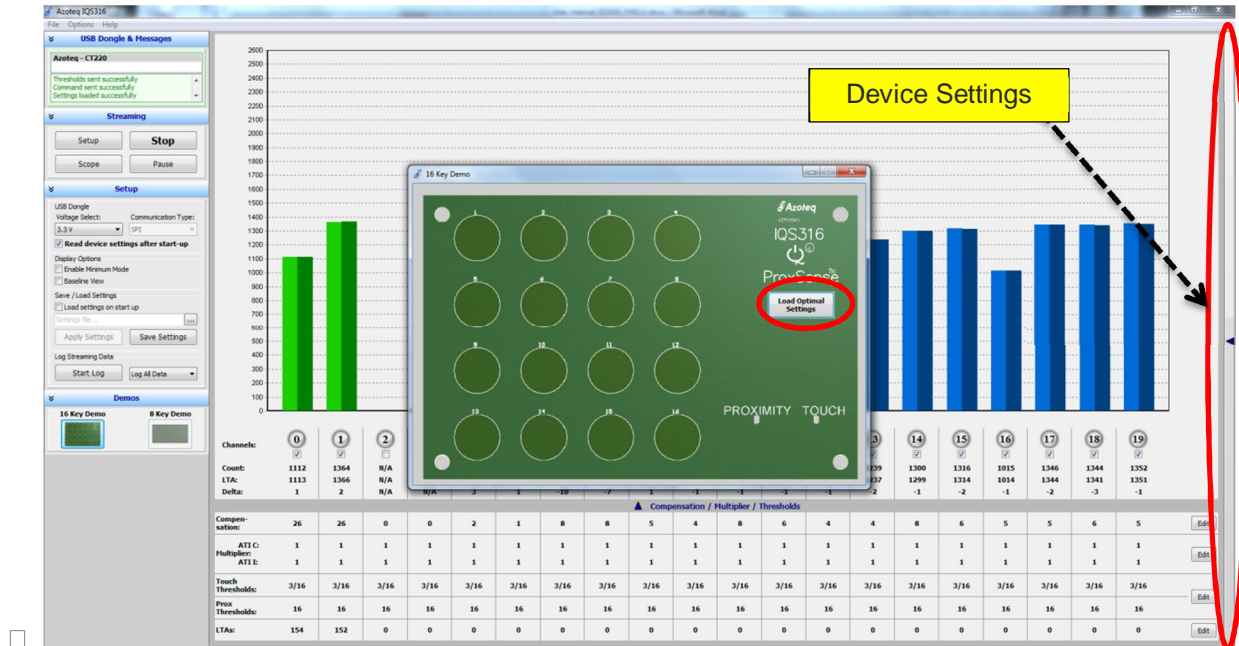

Figure 5.3 Setting up the GUI for 16-Key Demo operation
See Figure 5.3 for the next steps.
- Click on “Load optimal settings” as depicted in Figure 5.3.
- The device settings can be viewed and adjusted by clicking on the bar on the right-hand side of the GUI, as depicted in Figure 5.3.